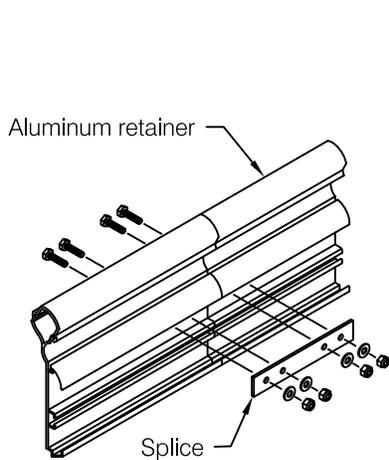

fig 6
- A minimum of 4" from end of retainer at splices to avoid interference with splice hardware (shown in **fig 6**)
- Step 9:** Refer to **fig 6** for splicing of aluminum retainer as required on longer handrail lengths. Always locate splice joints a minimum of 4" from bracket locations. For best results offset butt joint in cover, accent strip, and bumper guard from splice in aluminum retainer.